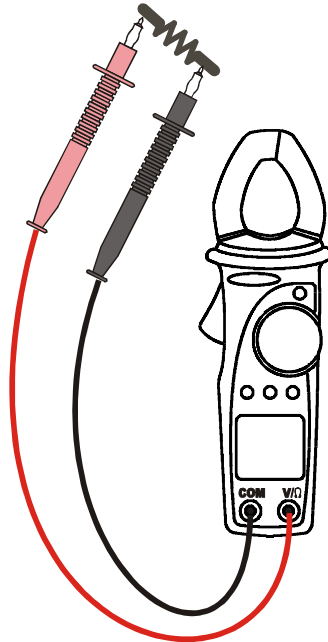

Fig. 8: Use of clamp for resistance measures.
2. Insert the test leads into the jack, the red plug into V/ Ω jack, and black plug into COM jack, like showed in Fig. 8.